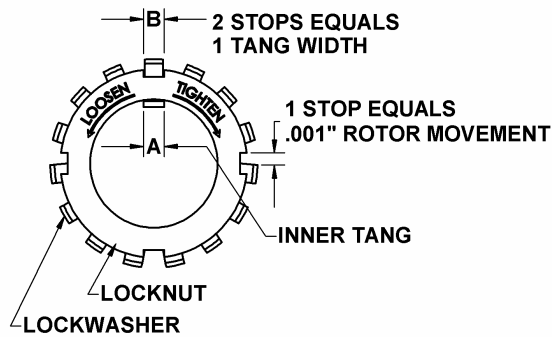

Figure 8 – Locknut Assembly
It is important that the bearing locknuts (24A) and lockwashers (24B) be installed and adjusted properly. Overtightening locknuts can cause bearing failure or a broken lockwasher tang. Loose locknuts will allow the rotor to shift against the discs (71), causing wear. See Figure 8.
- Tighten both locknuts (24B) to ensure that the bearings (24) are bottomed in the head recess. DO NOT overtighten and bend or shear the lockwasher inner tang.
- Tighten the opposite locknut (24A) by hand until it is snug against the bearing (24). Then, using a spanner wrench, tighten the nut the width of one lockwasher tang "B". Tighten just past the desired tang, then back off the nut to align the tang with the locknut slot. Secure the nut by bending the aligned lockwasher tang into the slot in the locknut. The pump should continue to turn freely when rotated by hand.
16. Inspect the grease seal (104) for wear or damage and replace as required. Grease the outside diameter of the grease seal and push it into the inboard bearing cover (27) or bracket mount (108) with the lip of the seal inward (towards the pump).
- Attach a new bearing cover gasket (26) and the inboard bearing cover (27) to the inboard head (20). Install the outboard bearing cover (27A) and a new gasket to the outboard head. Make sure the grease fittings (76) on the bearing covers are accessible. Install and torque the bearing cover capscrews (28) to 8 lbs ft (10.8 Nm).
- On flange mounted pumps, the bracket mount takes the place of the inboard bearing cover (27). To attach the bracket mount to the head, install a new bearing cover gasket (26) and the four mounting screws (28A).